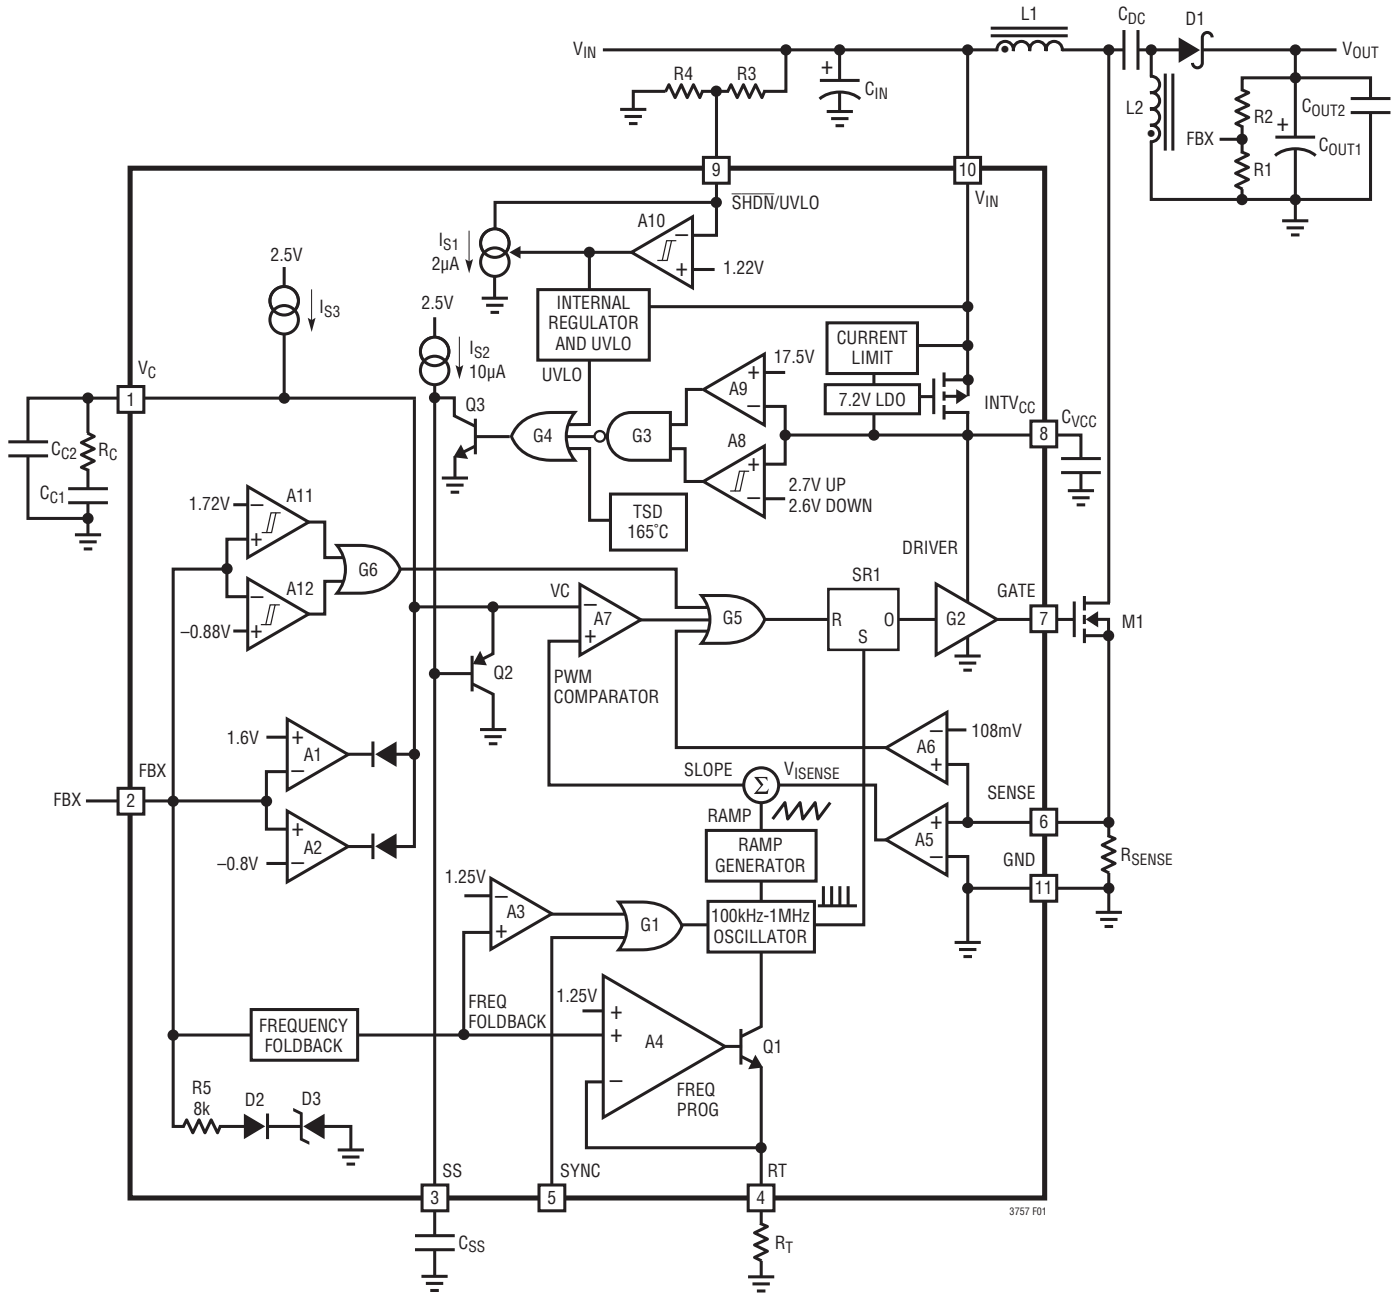

Figure 1. LT3757 Block Diagram Working as a SEPIC Converter
The LT3757 uses a fixed frequency, current mode control scheme to provide excellent line and load regulation. Operation can be best understood by referring to the Block Diagram in Figure 1.
The LT3757 is capable of generating either positive or negative output voltage with a single FBX pin. It can be configured as a boost, flyback or SEPIC converter to generate positive output voltage, or as an inverting converter to generate negative output voltage. When configured as a SEPIC converter, as shown in Figure 1, the FBX pin is pulled up to the internal bias voltage of 1.6V by a voltage divider (R1 and R2) connected from V_{OUT} to GND. Comparator A2 becomes inactive and comparator A1 performs the inverting amplification from FBX to V_C . When the LT3757 is in an inverting configuration, the FBX pin is pulled down to $-0.8V$ by a voltage divider connected from V_{OUT} to GND. Comparator A1 becomes inactive and
The purpose of this current is to allow the user to program the rising hysteresis. The Block Diagram of the comparator and the external resistors is shown in Figure 1. The typical falling threshold voltage and rising threshold voltage can be calculated by the following equations:
An internal, low dropout (LDO) voltage regulator produces the 7.2V INTV_{CC} supply which powers the gate driver, as shown in Figure 1. If a low input voltage operation is expected (e.g., supplying power from a lithium-ion battery or a 3.3V logic supply), low threshold MOSFETs should be used. The LT3757 contains an undervoltage lockout comparator A8 and an overvoltage lockout comparator A9 for the INTV_{CC} supply. The INTV_{CC} undervoltage (UV) threshold is 2.7V (typical), with 100mV hysteresis, to ensure that the MOSFETs have sufficient gate drive voltage before turning on. The logic circuitry within the LT3757 is also powered from the internal INTV_{CC} supply.
The choice of operating frequency may be determined by on-chip power dissipation, otherwise it is a trade-off between efficiency and component size. Low frequency operation improves efficiency by reducing gate drive current and MOSFET and diode switching losses. However, lower frequency operation requires a physically larger inductor. Switching frequency also has implications for loop compensation. The LT3757 uses a constant-frequency architecture that can be programmed over a 100kHz to 1000kHz range with a single external resistor from the R_T pin to ground, as shown in Figure 1. The R_T pin must have an external resistor to GND for proper operation of the LT3757. A table for selecting the value of R_T for a given operating frequency is shown in Table 1.
The output voltage (V_{OUT}) is set by a resistor divider, as shown in Figure 1. The positive and negative V_{OUT} are set by the following equations:
In the applications where V_{OUT} is pulled up by an external positive power supply, the FBX pin is also pulled up through the R2 and R1 network. Make sure the FBX does not exceed its absolute maximum rating (6V). The R5, D2, and D3 in Figure 1 provide a resistive clamp in the positive direction. To ensure FBX is lower than 6V, choose sufficiently large R1 and R2 to meet the following condition:
The LT3757 addresses this mechanism with the SS pin. As shown in Figure 1, the SS pin reduces the power MOSFET current by pulling down the V_C pin through Q2. In this way the SS allows the output capacitor to charge gradually toward its final value while limiting the start-up peak currents. The typical start-up waveforms are shown in the Typical Performance Characteristics section. The inductor current I_L slewing rate is limited by the soft-start function.
The optimum values depend on the converter topology, the component values and the operating conditions (including the input voltage, load current, etc.). To compensate the feedback loop of the LT3757/LT3757A, a series resistor-capacitor network is usually connected from the V_C pin to GND. Figure 1 shows the typical V_C compensation network. For most applications, the capacitor should be in the range of 470pF to 22nF, and the resistor should be in the range of 5k to 50k. A small capacitor is often connected in parallel with the RC compensation network to attenuate the V_C voltage ripple induced from the output voltage ripple through the internal error amplifier. The parallel capacitor usually ranges in value from 10pF to 100pF. A practical approach to design the compensation network is to start with one of the circuits in this data sheet that is similar to your application, and tune the compensation network to optimize the performance. Stability should then be checked across all operating conditions, including load current, input voltage and temperature.